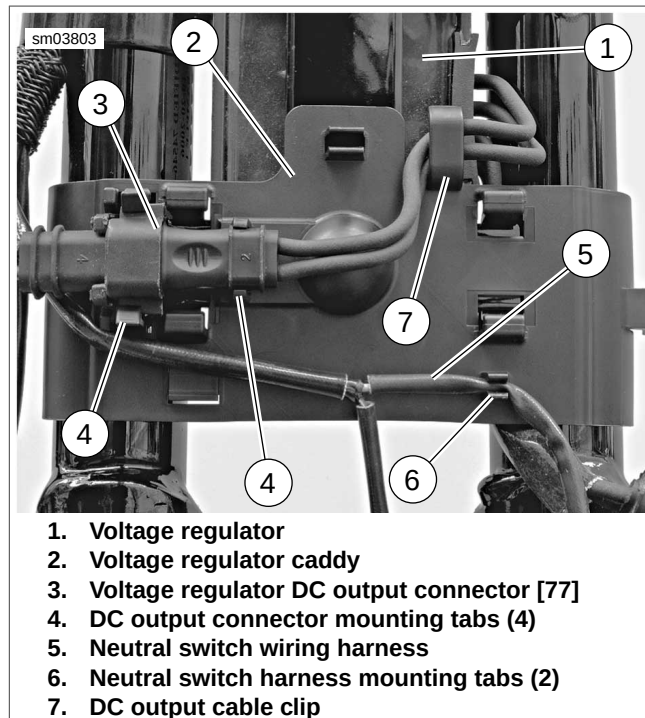

Figure 6-8. Voltage Regulator Caddy: Rear View
7. See Figure 6-8. Snap DC output harness connector assembly (3) into tabs (4) in the voltage regulator caddy (2). Insert DC output cables into cable clip (7) on caddy.